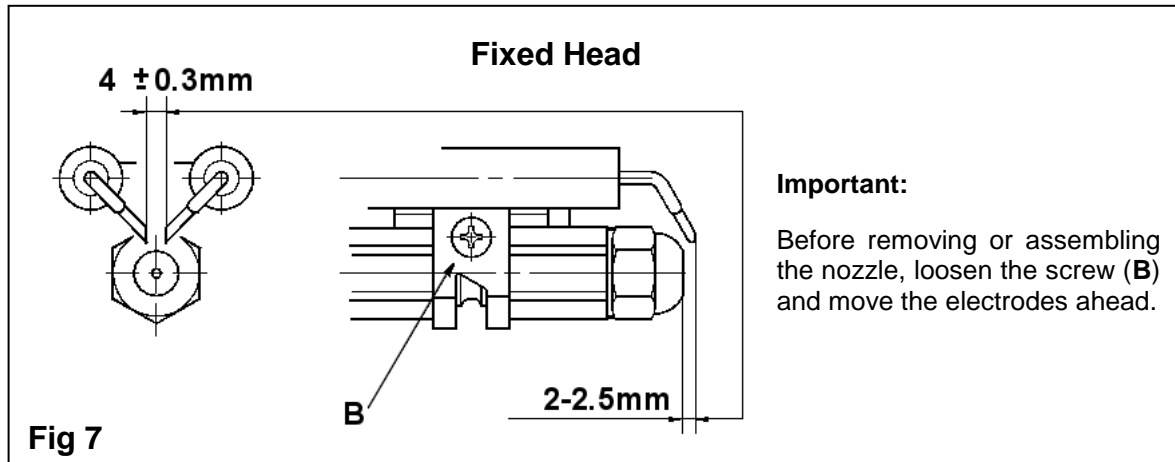

**Fig 5**
4. Remove the blast tube (**fig 5**), exposing the nozzle holder assembly.